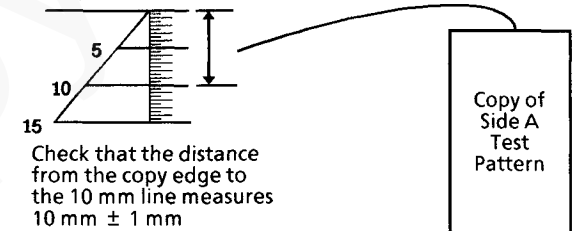

Figure 1. Checking the Lead Edge Registration
2. Check the Lead Edge Registration (Figure 1).